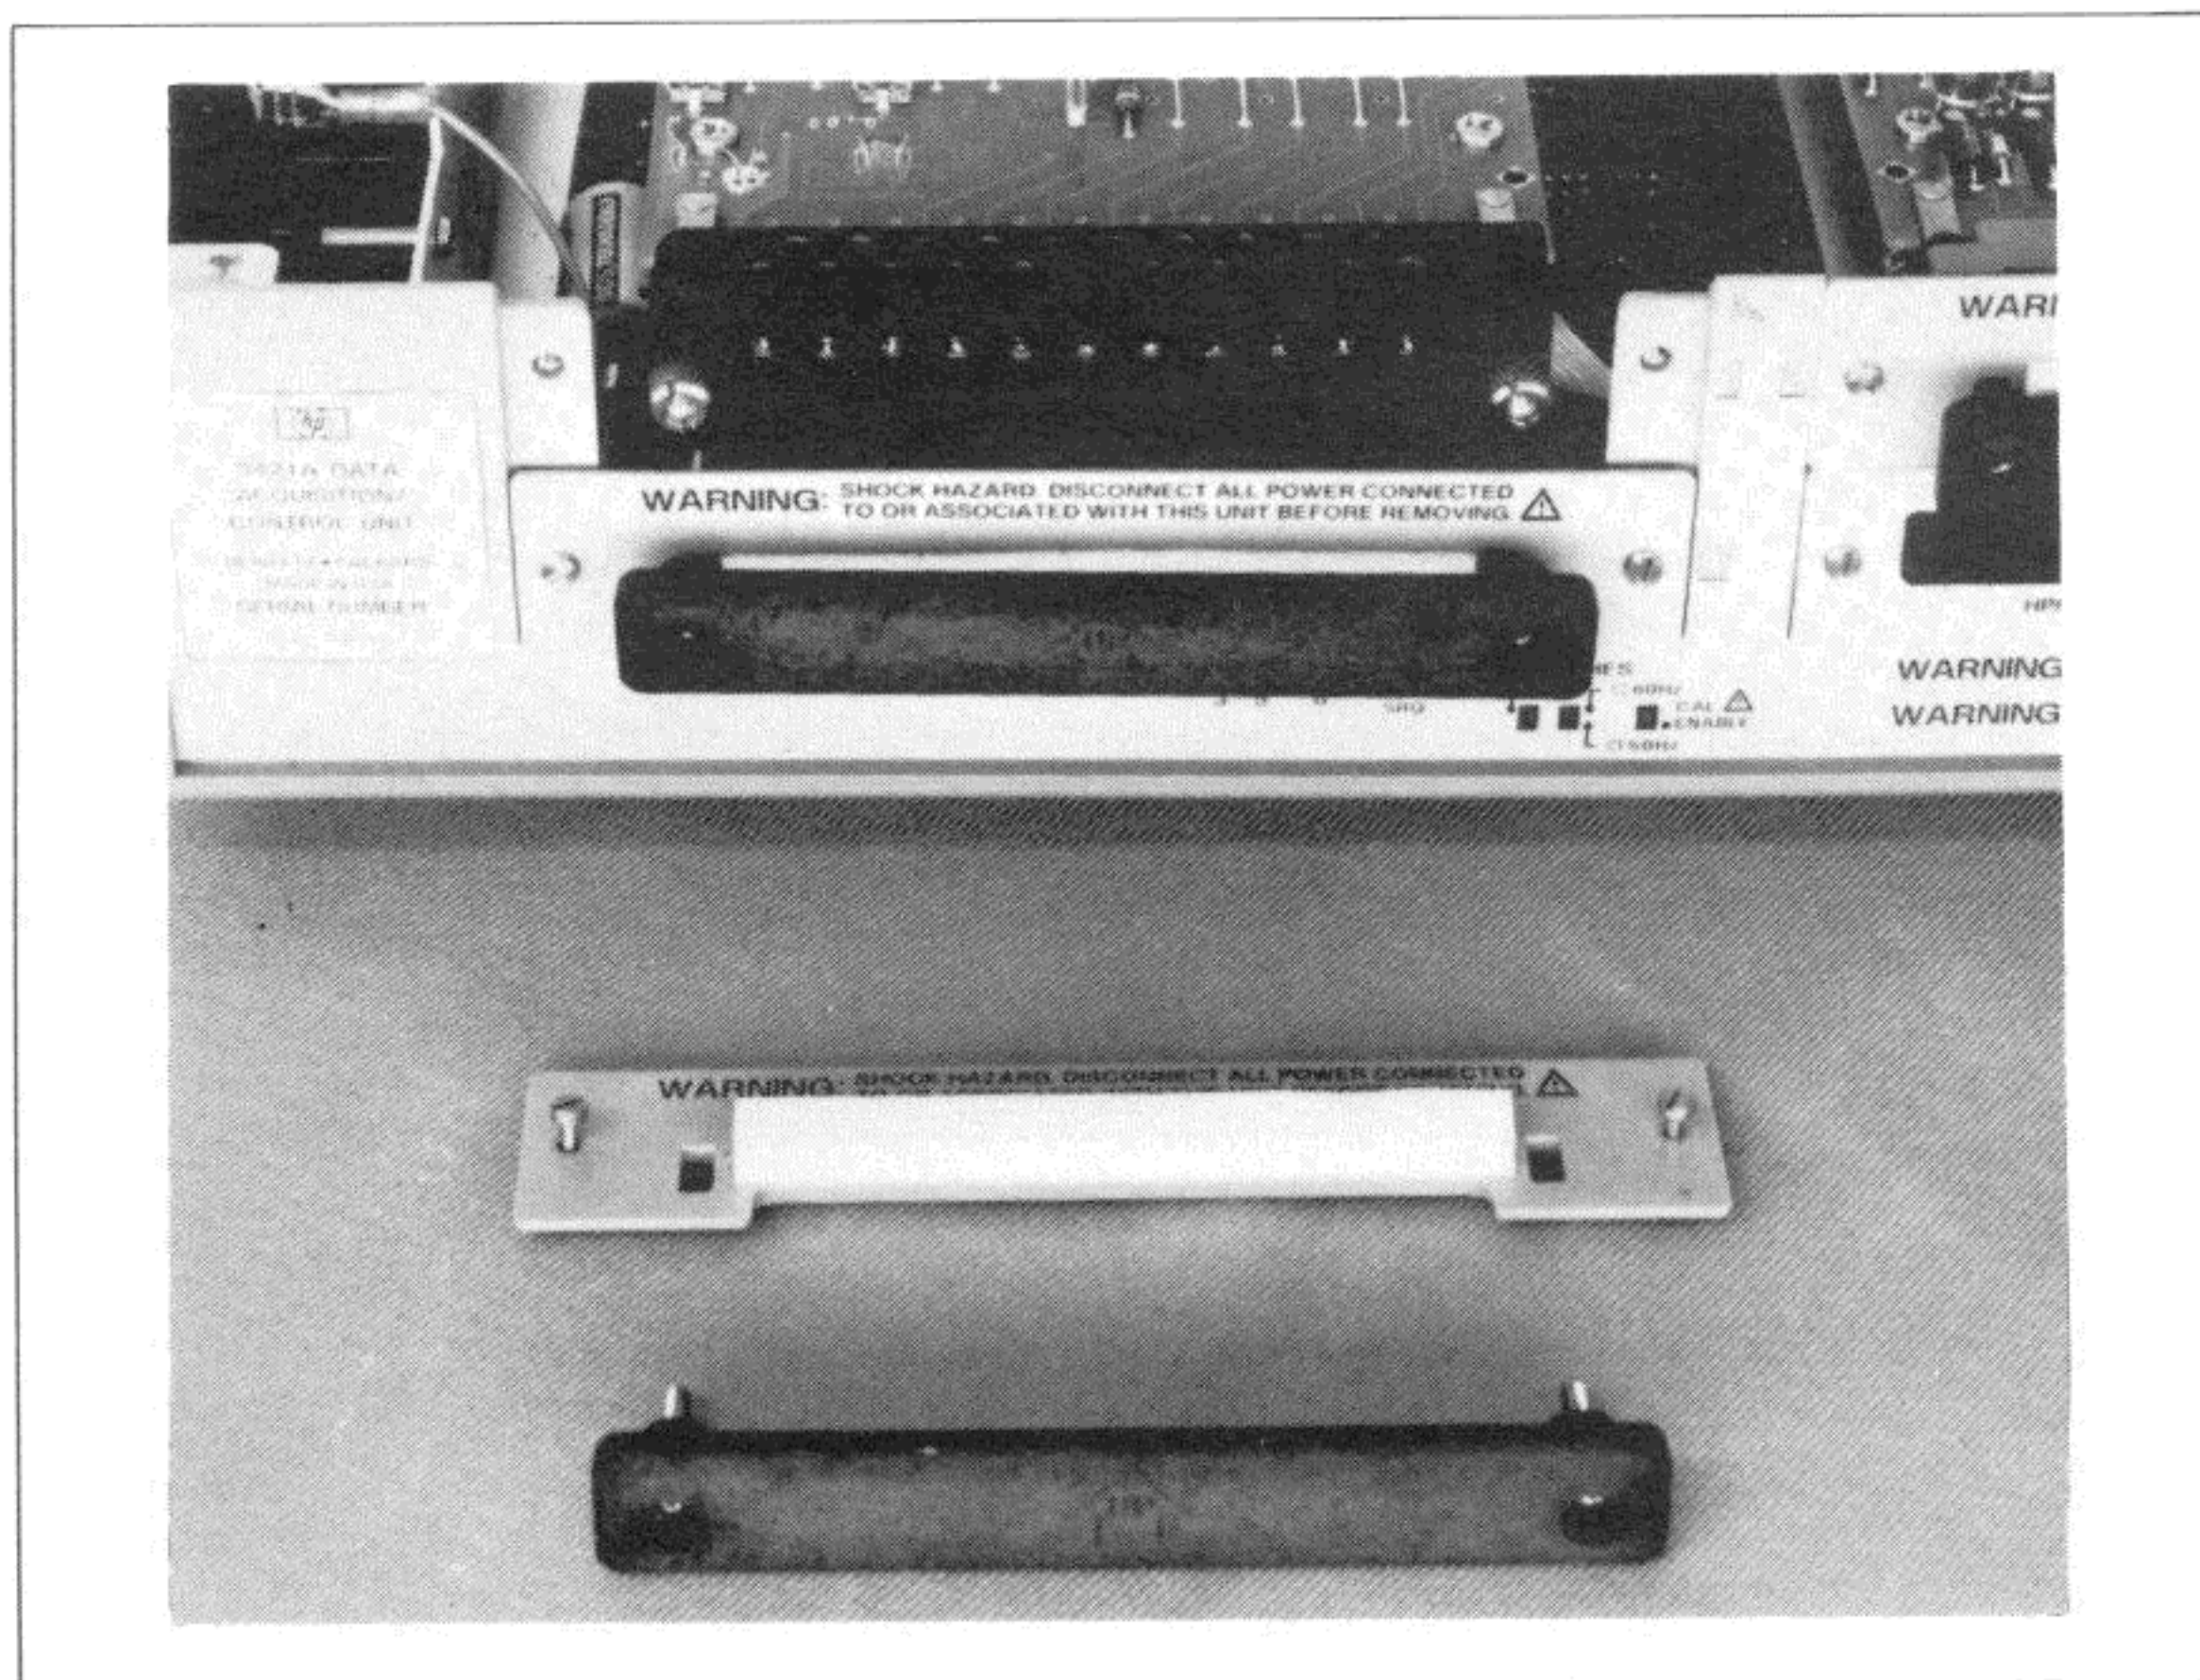

Figure 2-2-1. Remove Strain Relief and Safety Cover
1. Refer to Figure 2-2-1 and remove the two screws holding the black strain relief bar.